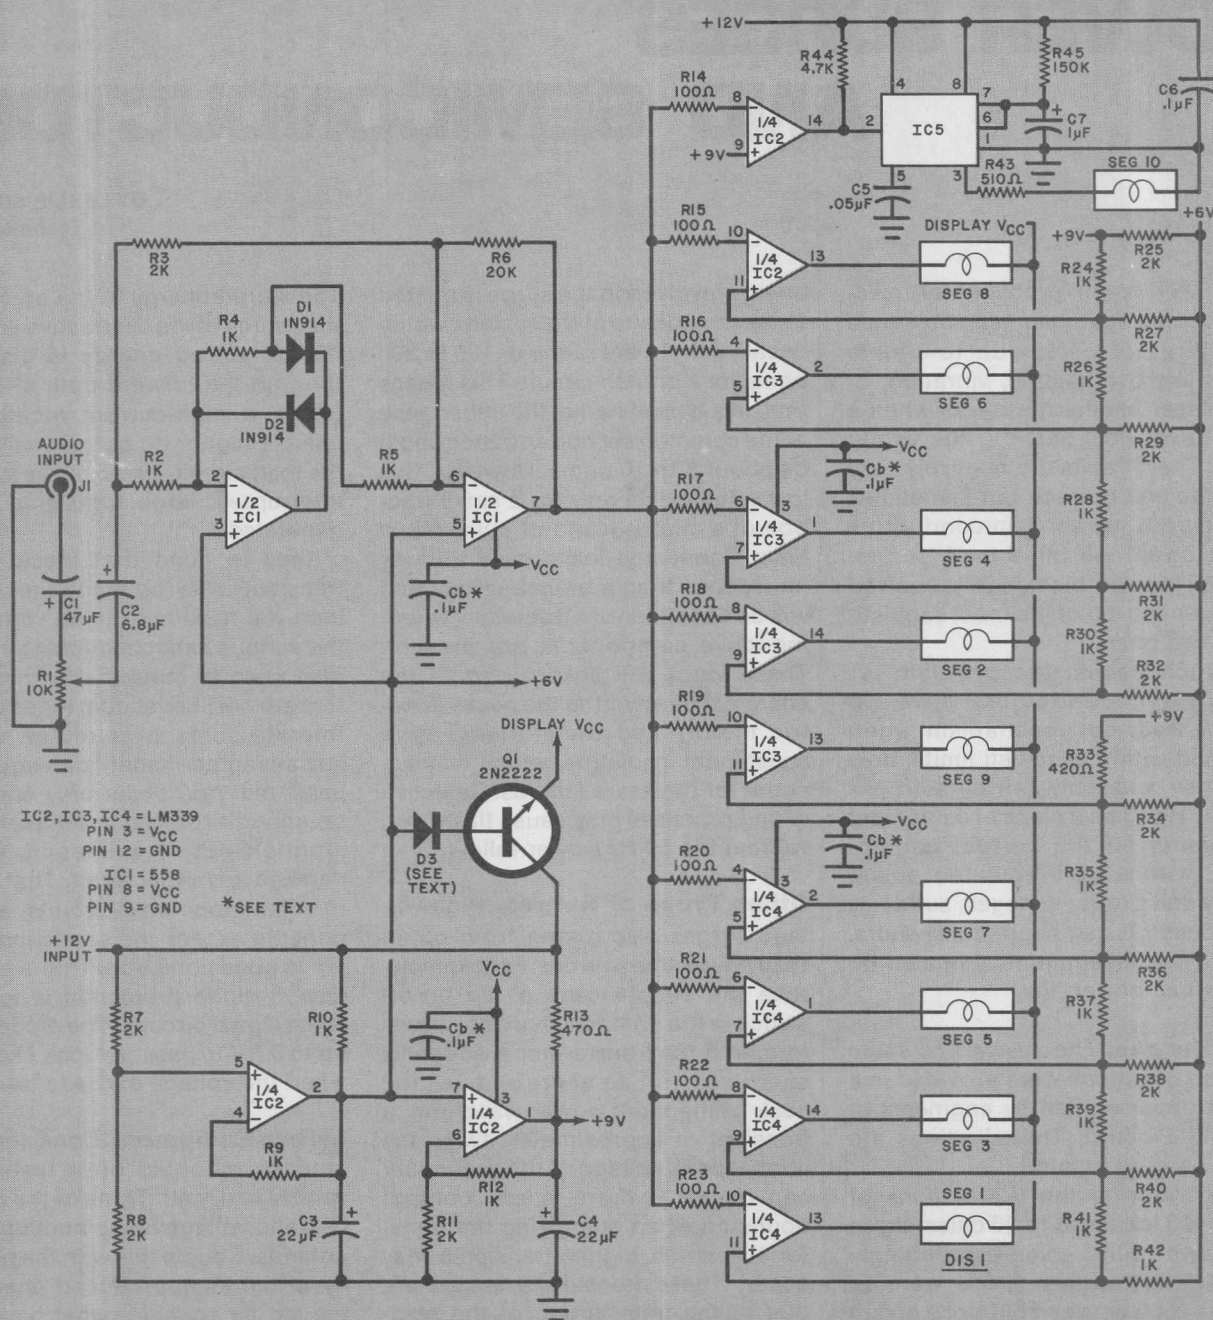

Fig. 1. The audio signal is rectified and applied to sequential comparators, which turn on filaments in display.
**Circuit Operation.** As shown in Fig. 1, potentiometer *R1* sets the level of the audio input to a precision full-wave rectifier that uses both halves of *IC1*. The rectified output is coupled to 10 parallel voltage comparators in *IC2*, *IC3*, and *IC4*.